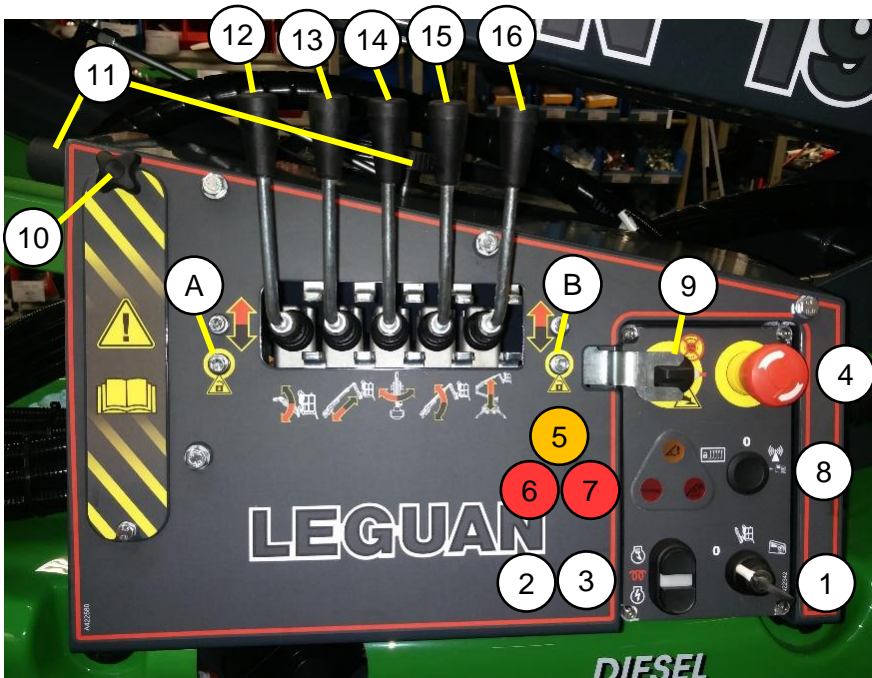

Figure 6: Lower controls panel
- To use an **emergency stop** or **kill switch** just press down the switch's red cap (figure 5 (25) and figure 6 (4)).